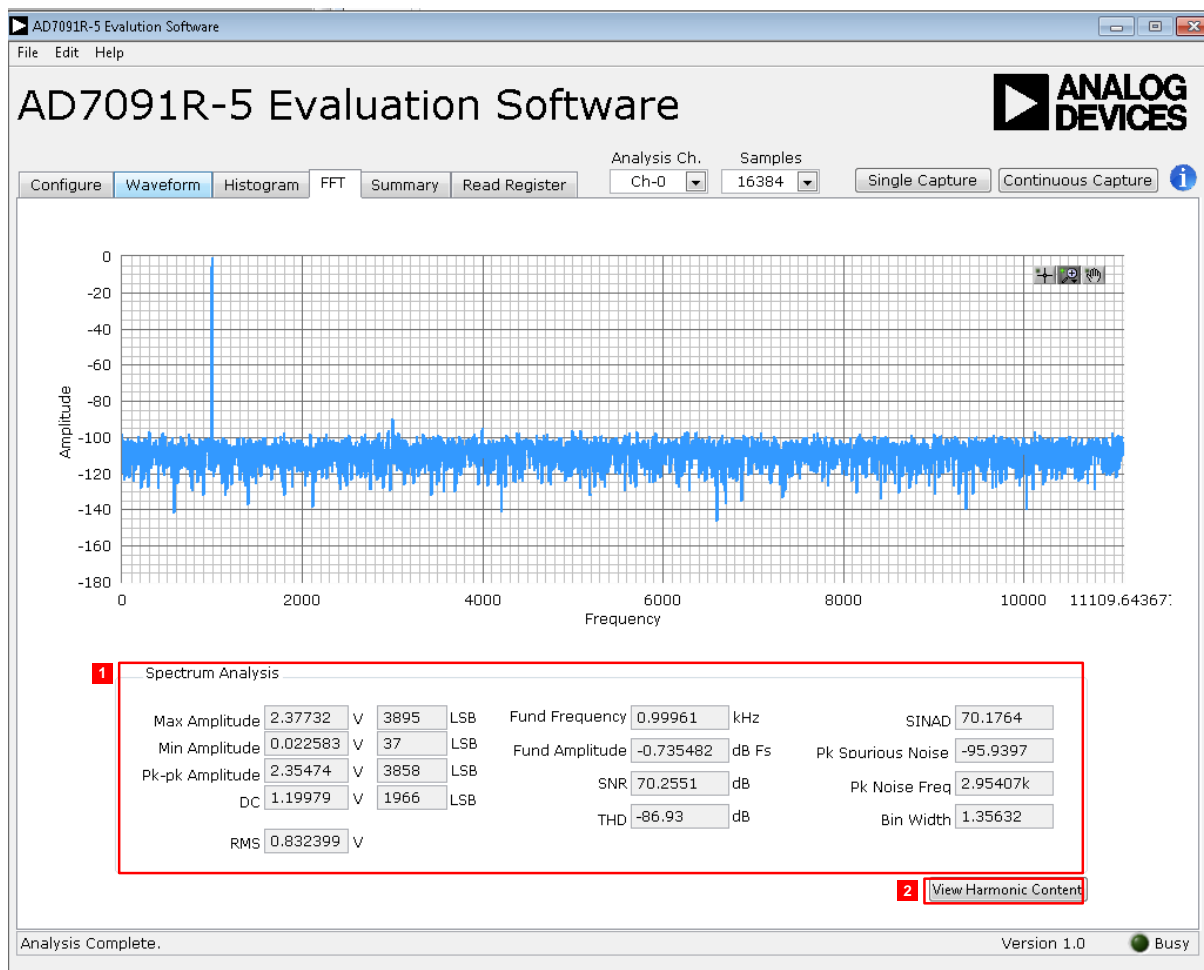

Figure 17. FFT Capture Tab
Figure 17 shows the FFT capture tab. This tests the traditional ac characteristics of the converter and displays a fast Fourier transform (FFT) of the results. As in the histogram test, raw data is captured and passed to the PC where the FFT is performed, displaying SNR, SINAD, and THD.
Figure 17 displays the spectral analysis results of the captured data.
- The **Spectrum Analysis** panel displays the performance data: SNR, THD, SINAD, dynamic range, and noise performance along with the input signal characteristics (labeled 1 in Figure 17).
- Select the **View Harmonic Content** button to switch the panel to display the frequency and amplitude of the fundamental in addition to the second to fifth harmonics (labeled 2 in Figure 17).